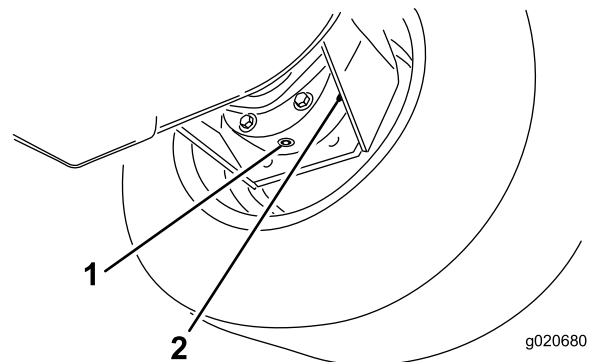

Figure 59
3. Place a drain pan under the brake housing, remove the drain plug, and allow the oil to drain (Figure 59).